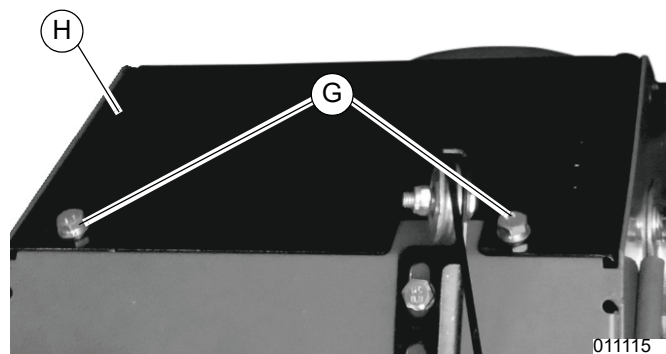

Figure 4-22. Transmission Cover Bolt Locations
7. See Figure 4-22. Use a 10mm wrench to remove the two bolts (G) securing transmission cover (H), and remove transmission cover.